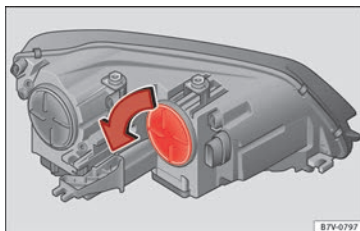

Fig. 106 In the engine compartment: turn signal indicator cover.
2.	Rotate the cover » Fig. 106 in the direction of the arrow and remove it.
7.	Rotate the cover » Fig. 106 in the opposite direction to the arrow as far as it will go.